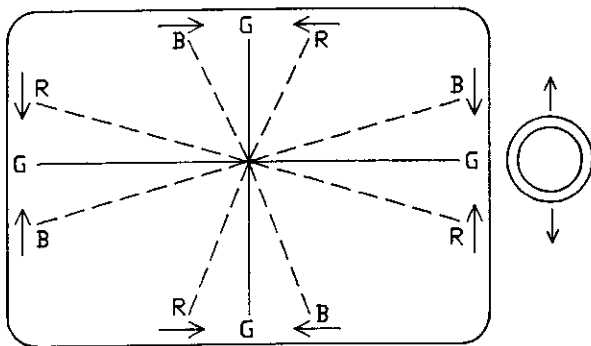
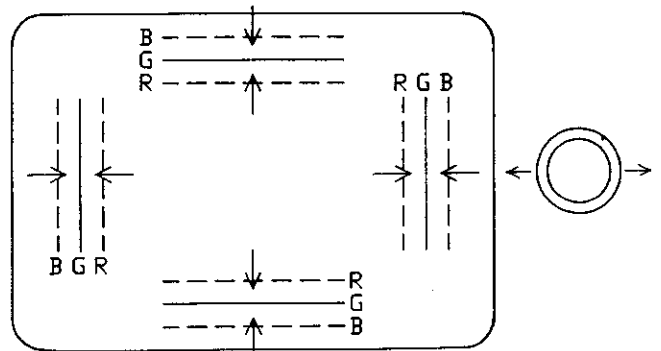

FIG 5
FIG 6
2. Tilt front of the deflection yoke up or down to obtain best convergence at the edge of the screen (Fig .5). Place a wedge at the uppermost position (D). Do not remove the adhesive backing paper from the wedge.
3. Place the other wedge at the bottom position (B) removing the backing paper to stick.
4. Tilt front of the yoke right or left to obtain best convergence of parallel lines. (Fig. 6.)
Move the yoke in the horizontal or vertical plane to converge the red/green/blue lines at the edges of the screen. (Figs. 5 & 6.)